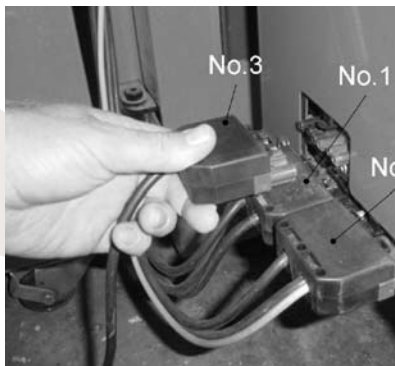

Figure 11-10: Burner plugs
- Whilst supporting the burner, unscrew and remove the two M8 burner securing nuts, one on each side of the burner. Refer to Figure 11-10.